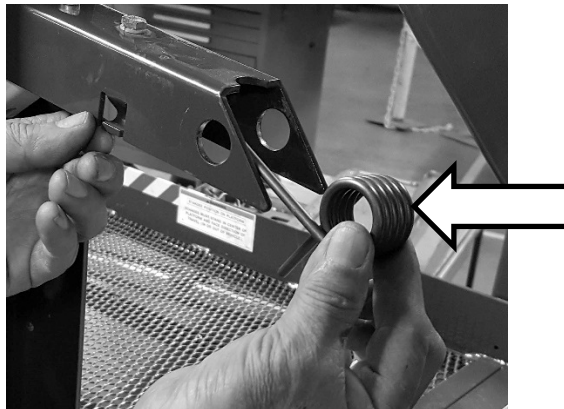

Figure 6. Actuator Spring
4. Refer to **Figure 6**. Remove and retain actuator spring for reuse.